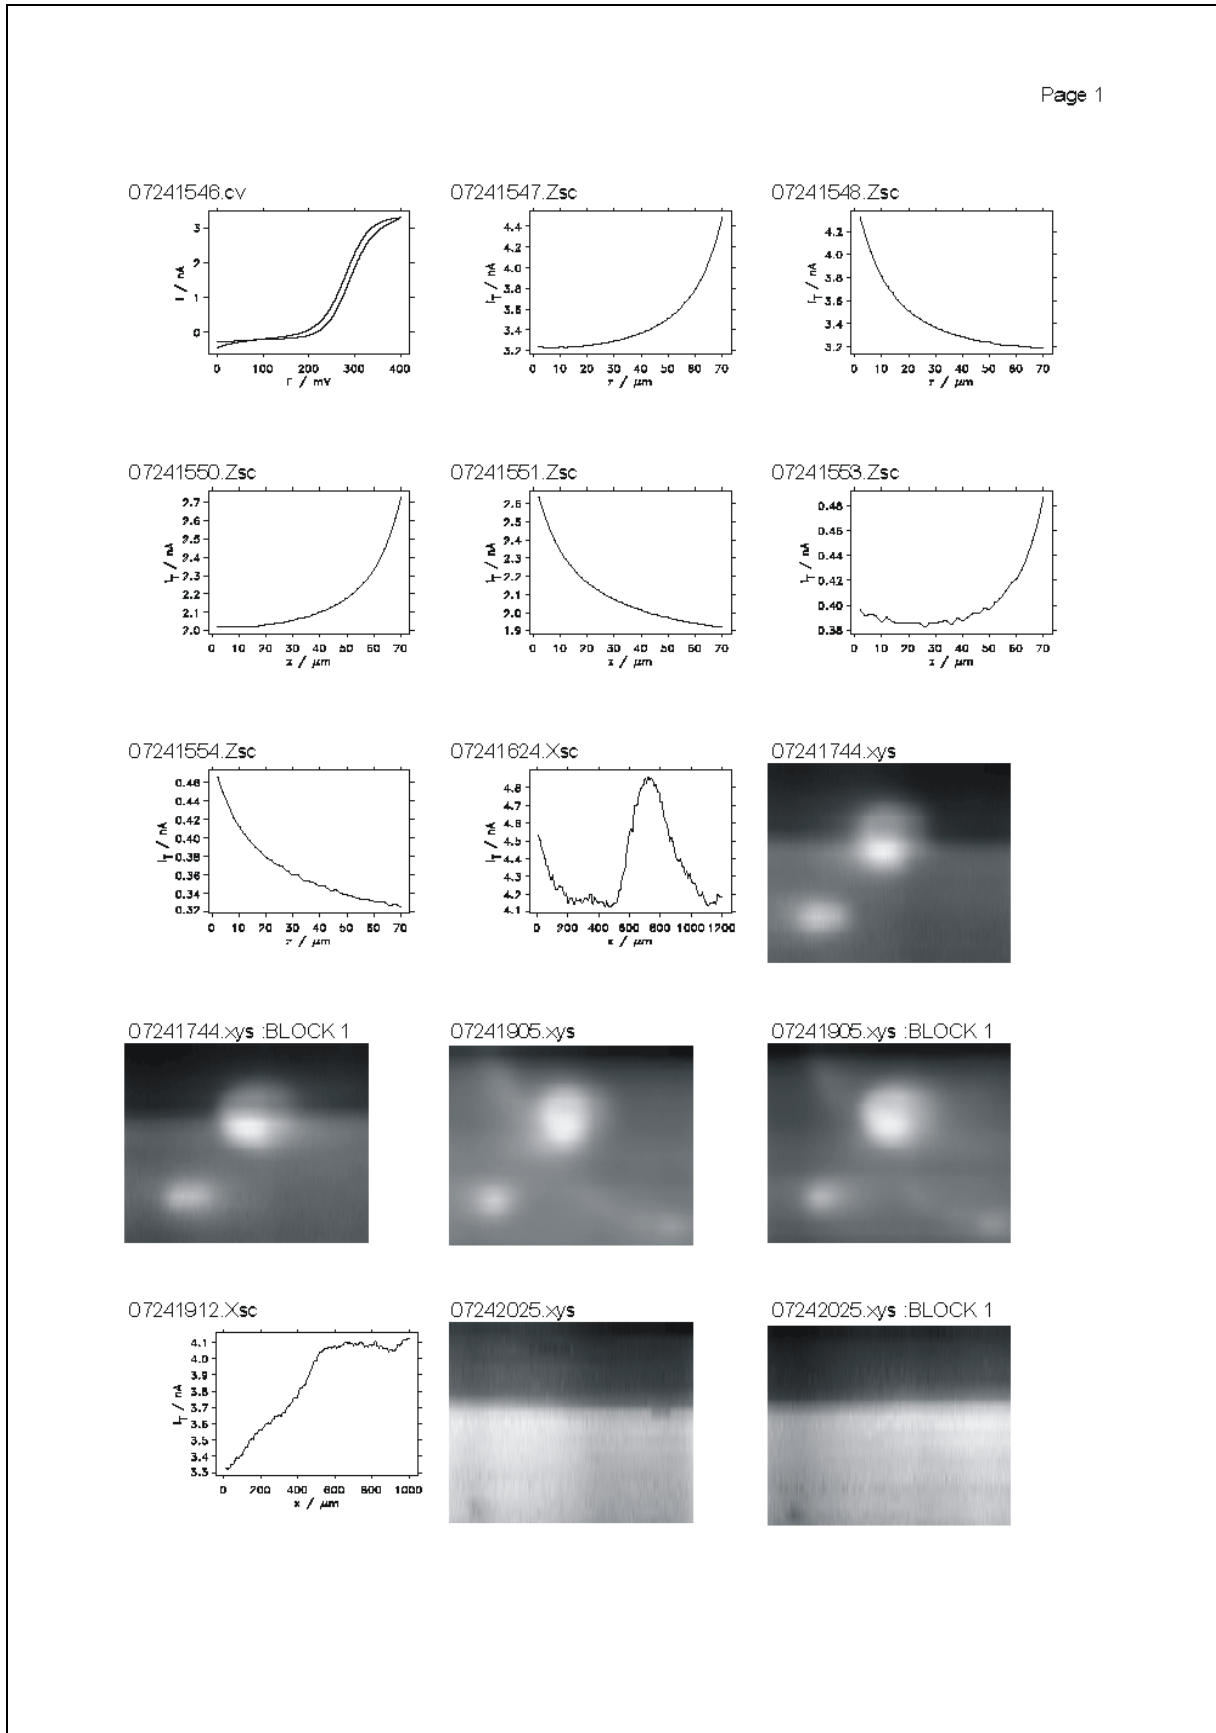

Fig. 138: Printout generated from mira.xls
19. Make a printout using the printers installed on your computer. Only columns A to C will be printed. The printout should look like Fig. 138.